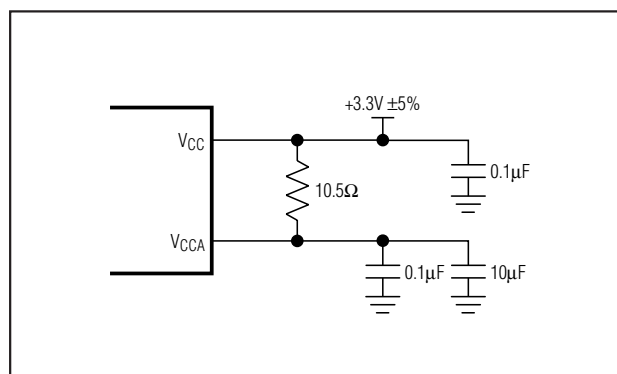

Figure 2. Analog Supply Filtering
- Note 1:** A series resistor of up to  $10.5\Omega$  is allowed between  $V_{CC}$  and  $V_{CCA}$  for filtering supply noise when system power-supply tolerance is  $V_{CC} = 3.3V \pm 5\%$ . See Figure 2.
| 17        | V CCA    | Analog Power Supply for the VCO. Connect to +3.3V. For additional power-supply noise filtering, this pin can connect to V CC through 10.5Ω as shown in Figure 2 (requires V CC = +3.3V ±5%).         |
The MAX3679 is a mixed analog/digital IC. The PLL contains analog circuitry susceptible to random noise. In addition to excellent on-chip power-supply noise rejection, the MAX3679 provides a separate power-supply pin,  $V_{CCA}$ , for the VCO circuitry. Figure 2 illustrates the recommended power-supply filter network for  $V_{CCA}$ . The purpose of this design technique is to ensure clean input power supply to the VCO circuitry and to improve the overall immunity to power-supply noise. This network requires that the power supply is  $+3.3V \pm 5\%$ . Decoupling capacitors should be used on all other supply pins for best performance.